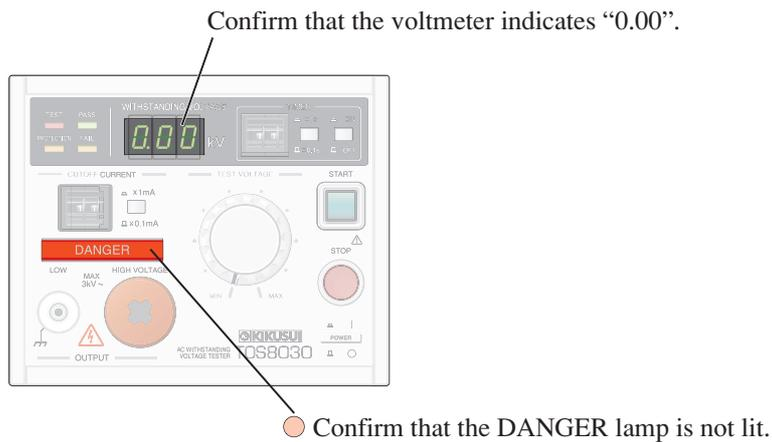

Fig. 3-1 Checking that No High Voltage is Being Output
1. Check the indications at the two locations shown in Fig. 3-1.